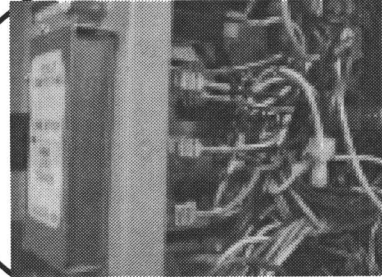
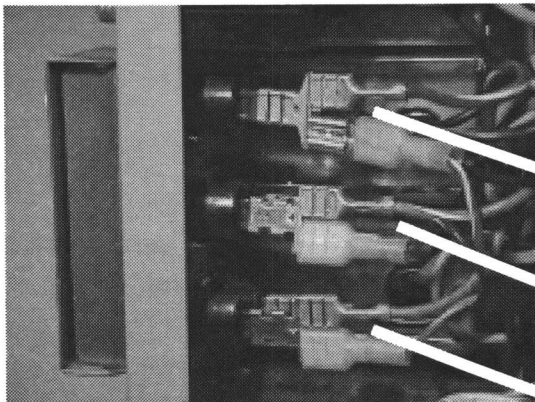

Figure 5
Figure 6 View with piggy back and
B. Locate the 5193 3 wire harness. Using the multi stack terminals (Figure 5), connect the 5193 harness along with the original wires to the test (payout) switches with the following color coded wires (Figure 6): **SEE NOTE ON NEXT PAGE FOR SPECIFIC INSTRUCTION REGARDING THE USE OF PIGGY BACK CONNECTOR**